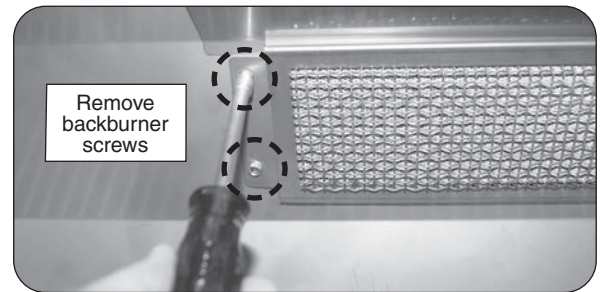

Fig. 38-3 Remove backburner mounting screws
2. Remove the backburner mounting screws (1/4" hex) located at the left end of the backburner assembly (see Fig. 38-3).